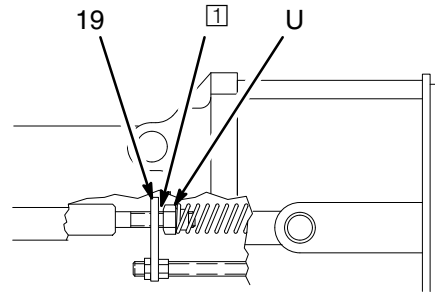

Fig. 28 04823
- b. Thread the jam nut (46) flush with the end of the piston rod (23g). Tighten the adjustment nut (36) against the actuator arm (19). When properly assembled, there should be about a 0.125 in. (3 mm) gap between the actuator arm (19) and the fluid packing rod nut (U), which allows the atomizing air to actuate before the fluid actuates. See Fig. 28. In addition, there should be 3 to 4 mm of electrode needle travel when the gun is triggered. If necessary, adjust the jam nut (46) position to obtain these dimensions.